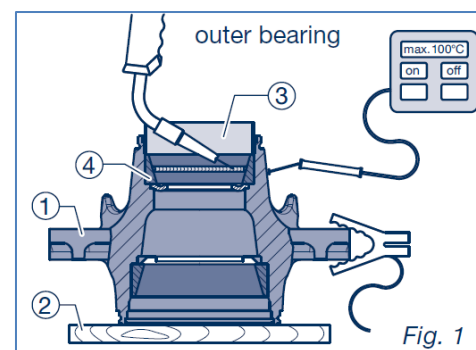

Fig. 1
2. Place the aluminium hub (1) on a soft surface, e.g. wood (2), see Fig. 1.
3. Manufacture a sheet metal strip (3) to protect the wheel hub during welding. Dimensions: 40 mm x 0.5 mm x 475 mm.